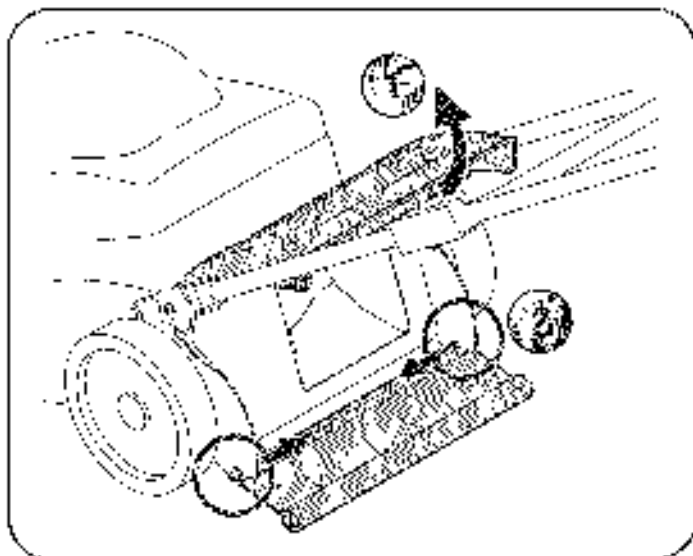

Figure 11
1. To remove trailing shield, lift rear door and bend (bow) the trailing shield inward on each side to release tabs from the holes in the mower frame. See Figure 11.